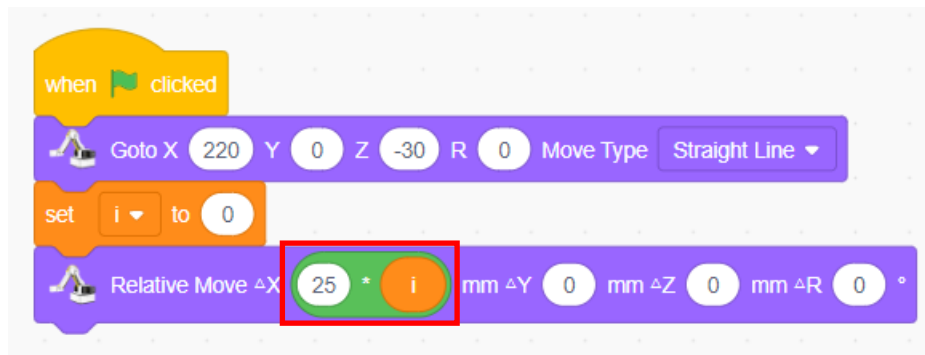

Figure 2.15 Variable "i" block
- 3) Click the "**Variables**" tab, drag the variable "i" to the code area, and put it in the oval position to the right of the block of the operator "*", as shown in Figure 2.15.